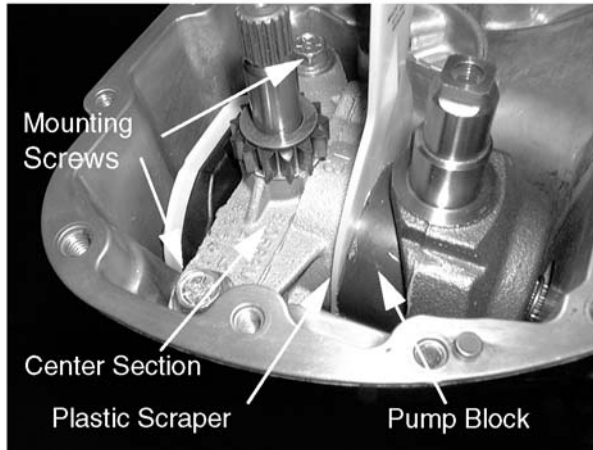

**Figure 6-63.**
25. Remove the input shaft assembly and inspect it for damage or wear. See Figure 6-63.